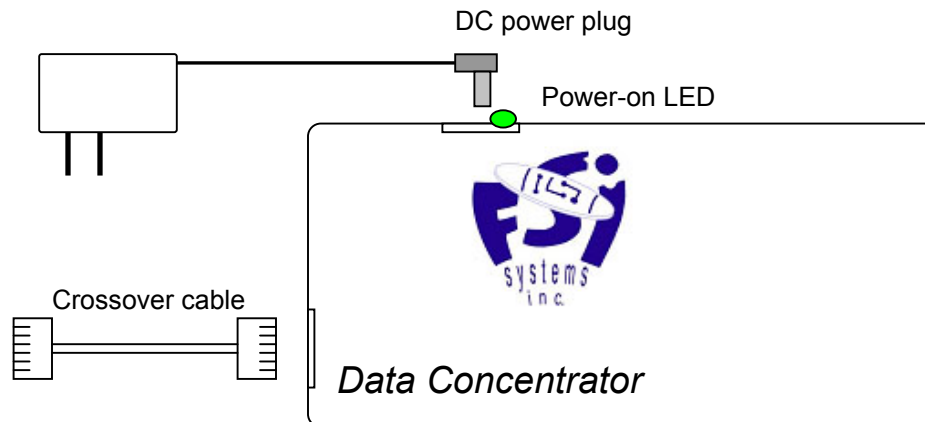

Figure 4
D) Plug either end of the crossover cable into the Data Concentrator (DCON) module as shown. Plug the opposite end into your PC's Ethernet connector. Refer to Figure 4.
E) Plug in the supplied power adapter to a 120VAC 60Hz outlet. In non-North American installations the use of a plug adapter (not supplied) is required. The supplied power adapter is capable of operation from 85-250 VAC, 40-60 cycle AC. Refer to Figure 4.
F) Plug the coaxial fitting power plug on the power adapter into the DCON's power jack to apply power to unit as shown. The green power indicator LED will illuminate to indicate power. Refer to Figure 4.